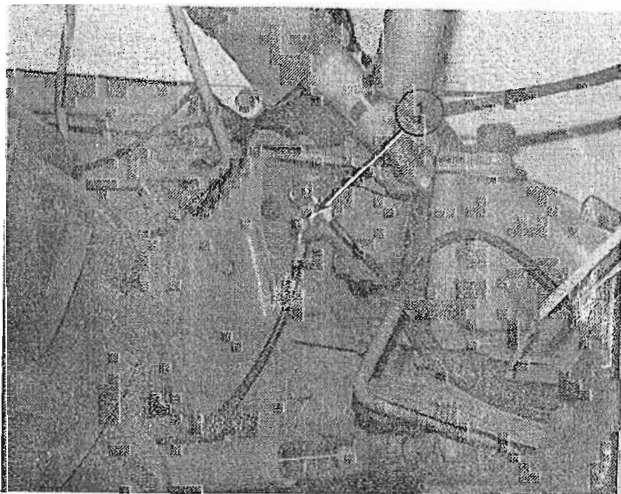

FIG. 5
(6) Power steering input and return hoses at the manifold block. (1, Fig. 5)